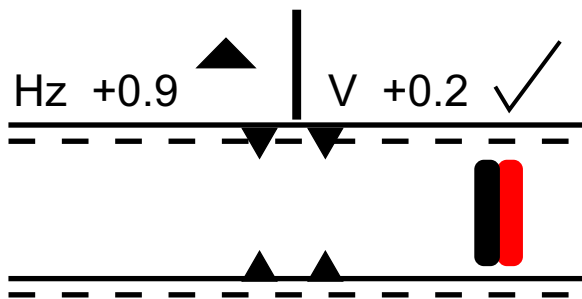

Figure 73. Frequency/Voltage Mismatch
- On generator #2, press the close contactor button and verify that the initializing synchroscope screen (Figure 73) is displayed as it closes the contactor.
Initially the synchroscope screen shows the difference between the bus and generator supplies. Figure 73 indicates a frequency mismatch of +0.9 Hz and a voltage mismatch of +0.2 V.
In addition, Figure 73 also indicates that the generator frequency is **too high** as shown by the arrow mark and must be reduced. The voltage is high, but is within the limits set for synchronizing, indicated by the check mark.